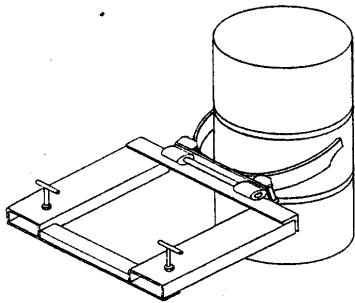

Figure 2
- (1) Place unit on floor or flat surface easily accessible to fork truck. Be sure that "T" bolts are sufficiently unthreaded to allow forks to enter pockets.
- (2) Carefully slide forks (do not use fork extensions) into drum grab's fork pockets. Be sure forks are in pockets as far as possible.
- (3) Hand tighten "T" bolts to secure unit to forks (hand tool may be used but is not necessary). Recheck bolts periodically during use for tightness.
- (4) If not already done, unfold grab jaws
- (5) Raise unit and approach drum so that the jaws come in contact with the drum just below the upper rolling rib of the drum. (Figure 2)